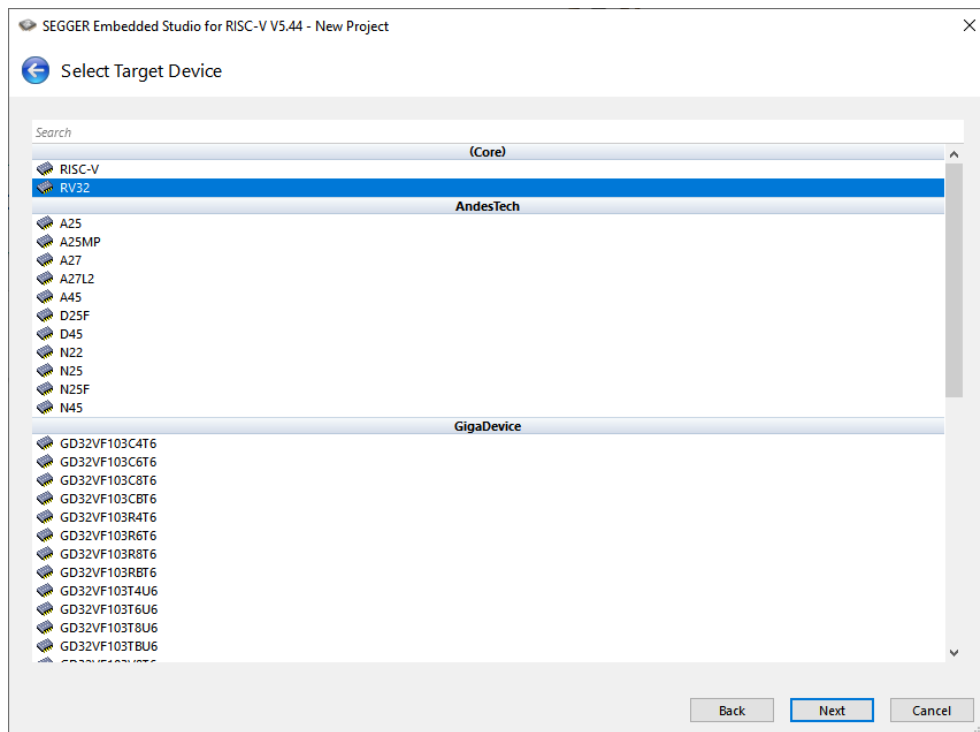

Figure 6-5 Embedded Studio, RV32
6. And on the next dialogue, choose RV32, as shown in Figure 6-5.